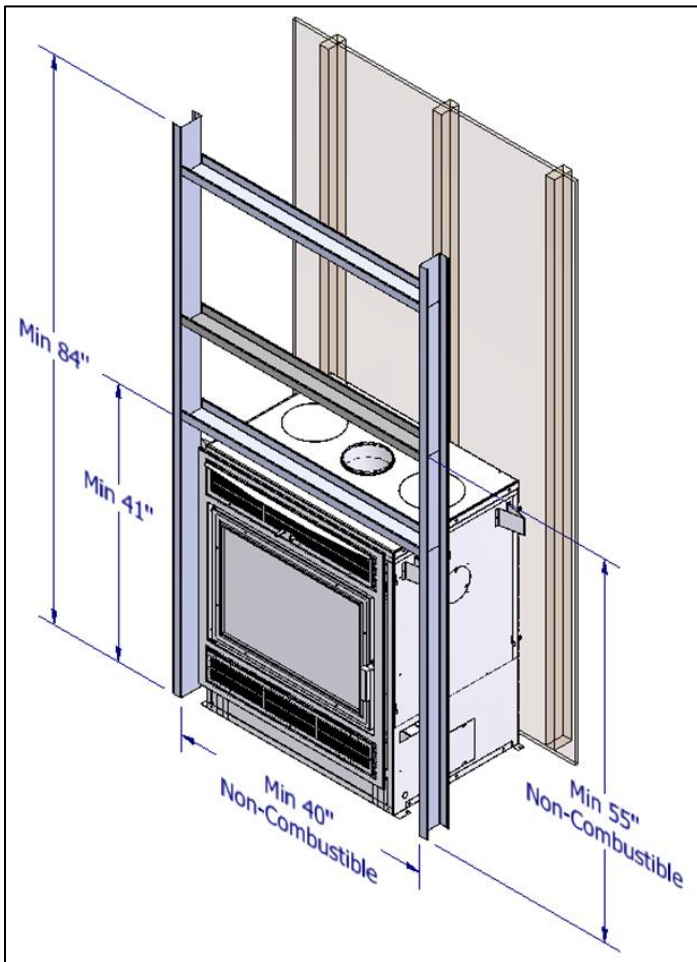
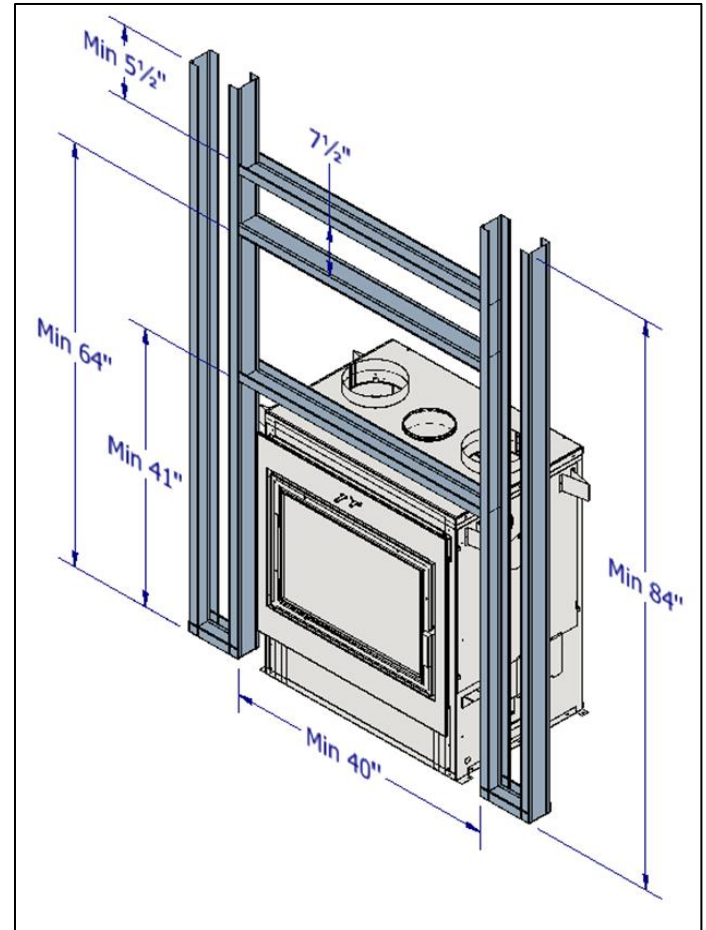

Figure 3-10: Minimum Astra 32 Framing Dimensions
Figure 3-11: Minimum Framing Dimensions for Single Linear Front Louver Gravity Kit Installations
The Astra 32 can be placed directly onto or against normal, combustible construction materials such as lumber, plywood, millboard, particleboard, drywall and decorative wood paneling. The fireplace should NOT be placed directly against or be in contact with an insulation material. A portion of the framing on the face of the chase must be constructed with nominal 2" x 3" or 2" x 4" metal studs and the remainder can be constructed with nominal 2" x 3" or 2" x 4" lumber. Refer to Figure 3-10 for an example of a framing design and Figure 3-11 for the framing for installations of the single linear front louver gravity kit. The framing must be nailed or screwed onto the floor and to the ceiling.
**CAUTION:** Respect the framing design outlined in Figure 3-11 as well as the chimney manufacturer's clearances to combustibles.
Refer to Figure 3-10 for minimum non-combustible framing dimensions
Refer to Figure 3-11 in Section 3.3 for framing requirements of single linear front louver installations.